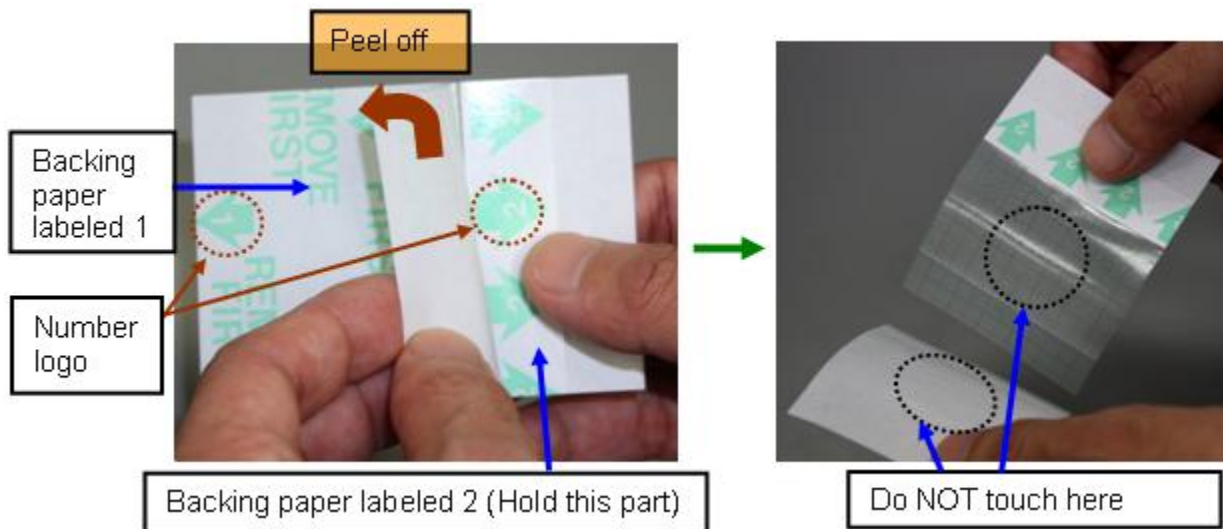

Figure 2. Peeling off backing paper labeled 1
Do NOT touch the center of adhesive face of Myco Sampling Sheet or the white glossy side of the backing paper labeled 1 to avoid contamination. Refer to Figure 2.
Refer to Figure 2.
- 2.7 Put Myco Sampling Sheet back on the white glossy side (no labeling) of the backing paper labeled 1 with the non-adhesive side facing up. Refer to Figure 2.